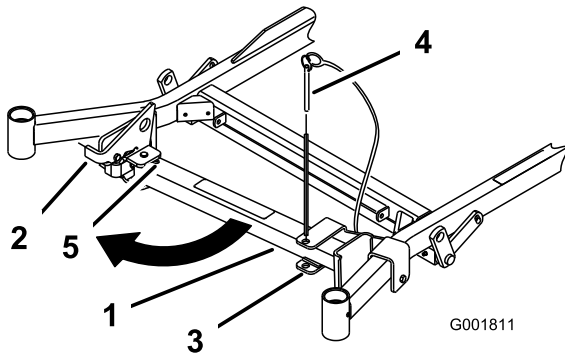
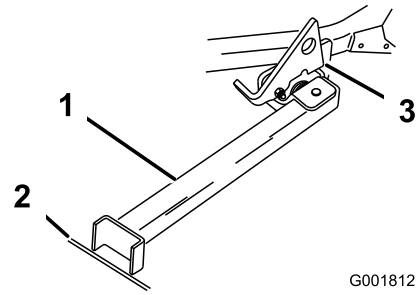

Figure 27
Figure 28
2. Remove the bracket pin (Figure 27).
3. Raise the latch. Swing the stand foot out front and slide stand toward machine, into the bottom of slot (Figure 27 and Figure 28).
4. Set the foot of stand on the ground and rest the latch on the pivot tab (Figure 28).
Note: For best results, place the foot of stand into seams in sidewalks or into the turf (Figure 28).
6. Drive onto the stand. Stop when the latch drops over the tab into the LOCKED position (Figure 28). Once onto the stand, engage the parking brake and turn off the engine.
5. Return the stand to its REST position (Figure 27).